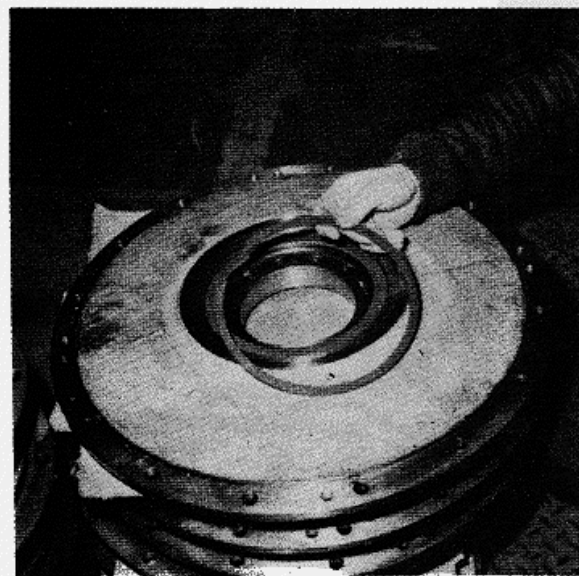

FIGURE 8-11
o. Pry out the snap ring with a large screwdriver or medium size pry bar; Replace if worn or scored (see figure 8-11).